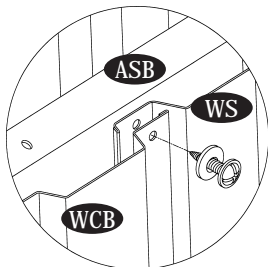

Fig.1
15. Place the top angle side (ASB) on top of the wall panels (WCB) & (WCF) and top angle (ABLB). Line up the holes and secure with (S1) screws with washers. See fig.1 & 2.
Make sure the overlapping position of panels is as shown in fig. 1 & 2.